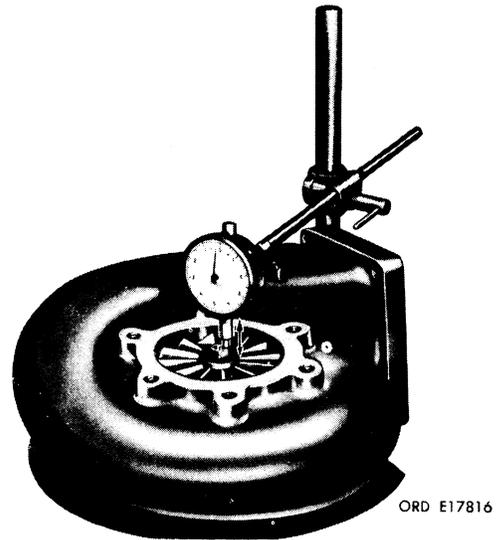

FIGURE 10. CHECKING TOTAL END PLAY.
- (3) Subtract lowest reading from highest reading to obtain total radial movement. Maximum permissible shaft and turbine wheel movement is 0.023-inch. Refer to table 2 for corrective procedure.
c. Check End Play. Clamp exhaust inlet flange of turbine housing in a soft-jawed vise. Attach a dial indicator to turbocharger with a clamp or magnetic base holder. Position dial indicator point on end of turbine shaft and wheel as shown in figure 10. Move shaft and turbine wheel to extreme up and down positions to check total end play. Total end play should be within 0.004 and 0.008-inch.